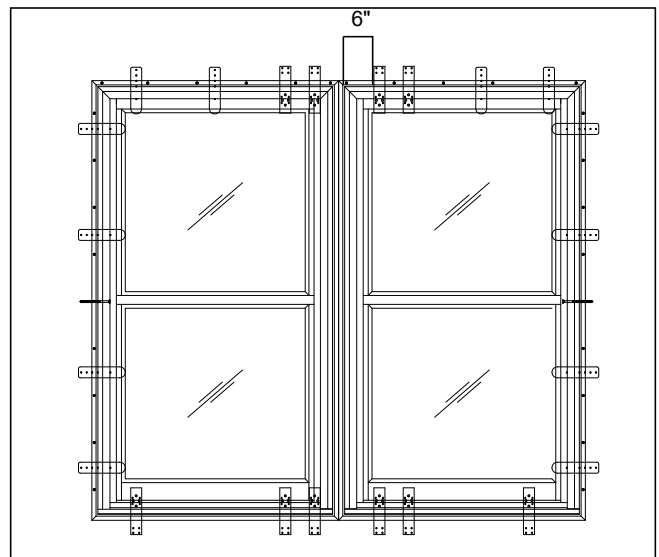

Figure 8
*NOTE: All mulled units require fastening with two screws or structural brackets on each side of the mull joint. Spacing shall be no more than 6" (152) from mull joint. Additional brackets should be placed at the corners to level unit. See figure 8.*